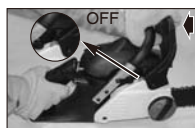

Fig. 6A
1. The CHAIN BRAKE is DISENGAGED (chain can move) when BRAKE LEVER IS PULLED BACK AND LOCKED. Be sure the chain brake latch is in the OFF position. (Fig. 6A)